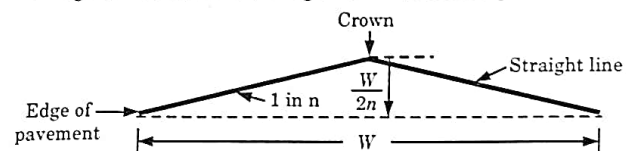

Fig. 2.5.2. Straight line camber.
- iii. Steel tyred wheels while moving develop high stresses and can cause damage to the road surface. Fig. 2.5.2 shows a straight line camber.